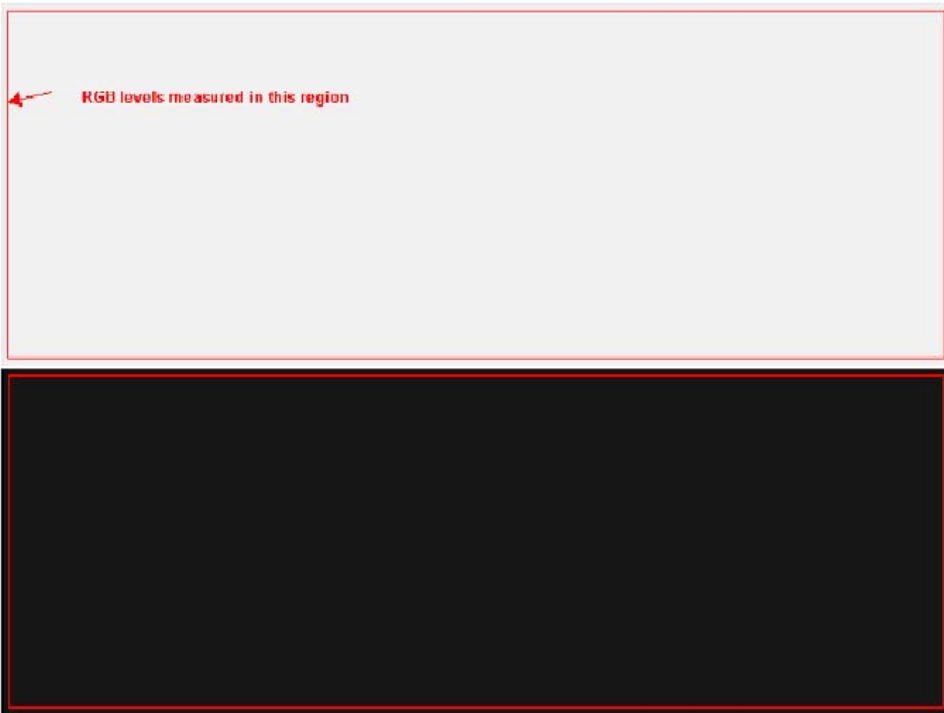

Figure1
- 4 Pattern: As Figure1 {A near white color (240,240,240) and a near black color(16,16,16)}